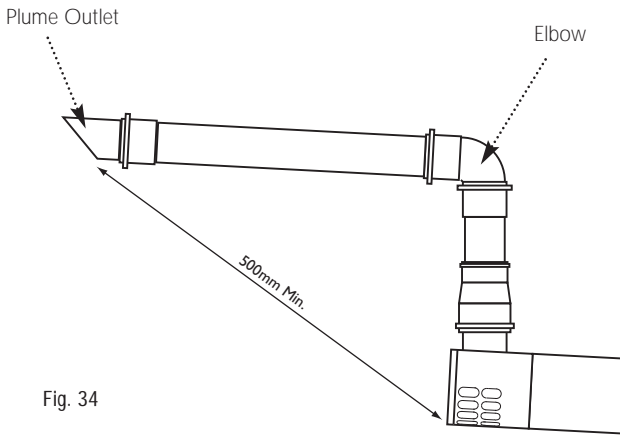

Fig. 34
16. It is also possible to separate the plume outlet from the 93° elbow to allow the flue to be installed as shown in Fig. 34.
17. To do this, first slacken the two screws retaining the plume outlet to the elbow, and remove the outlet (Fig. 35). The elbow can now be used to connect the vertical to horizontal 60Ø exhaust (Fig. 34). Retighten the screws in the elbow.